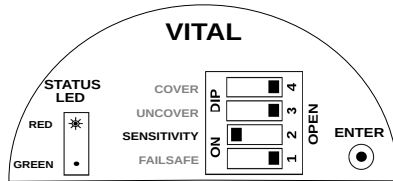

Figure 8: Sensitivity Switch Position
- Set the SENSITIVITY switch to CLOSE (Opposite of OPEN in a DIP switch) position as shown in Figure 8.